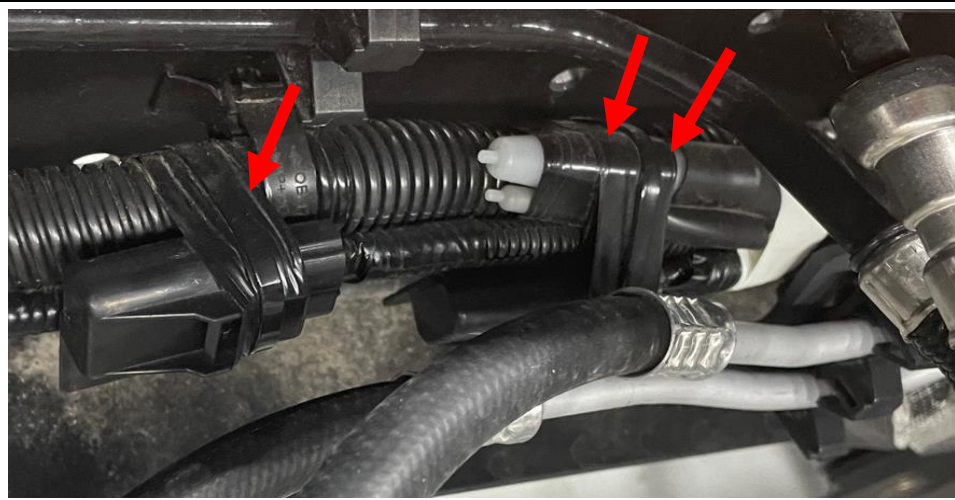

Figure 2
3. Cut and remove two (2) zip ties and tape securing the fuse holders. (See Figure 2.)